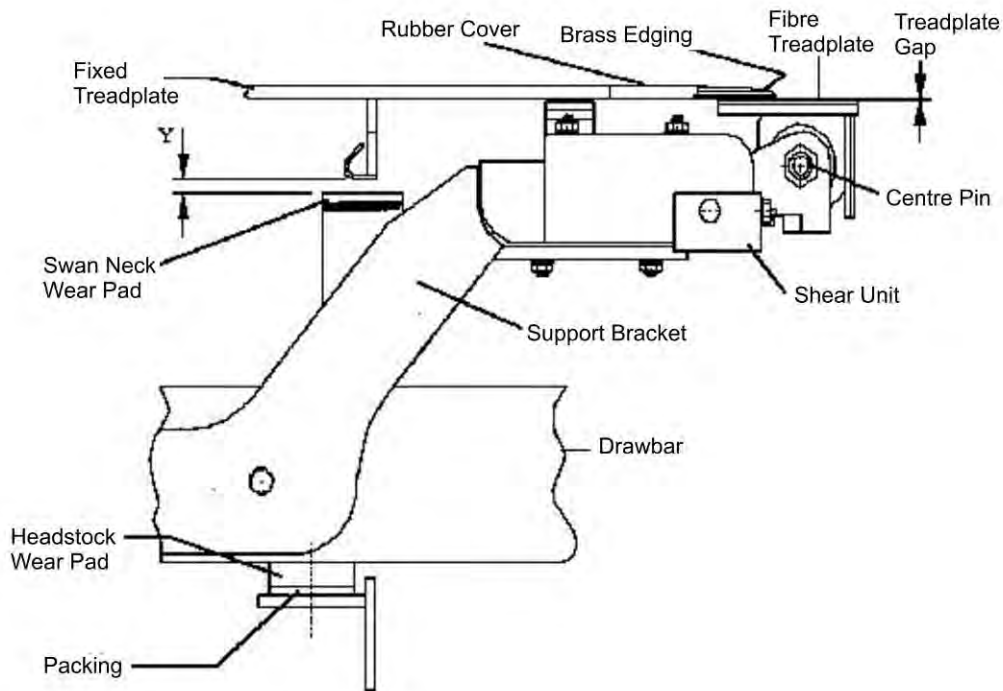

Figure 1: Setting up Gangway Supports
- Re-assemble using a new tail pin (6) (see Materials item 6), rubber springs (3), dividing and end plates and drawgear followers with washer (7) and new castellated nut (8).
- Trial fit an overhauled drawbar assembly (LHCS vehicles) or alliance coupler (HST vehicles) (11).
- Pack the headstock wearing pad until the treadplate gap is minimised (see Materials items 1, 2 or 3). The treadplate gap must be constant across the width of the treadplate and must not exceed 3mm.
- Measure dimension 'Y'. Check that it is at least 8mm. See Figure 1.
- Fit packings (see Materials item 4 and 5) under the swan neck pack so that the clearance there is 2mm.
- Tighten the tail pin nut until the stops (12) can be fitted.
- Fit the split pin (9) and open out the legs.
13. Secure the hinged panel (27) to the faceplate with M8 x 16 screws. Use a thin wedge placed between the roller and cover strip (12) to temporarily hold the flexible panel in correct position.
15. Refit the ceiling strip (24) and ceiling panel (25) (see Figure 1 in Job No. CVA0116).